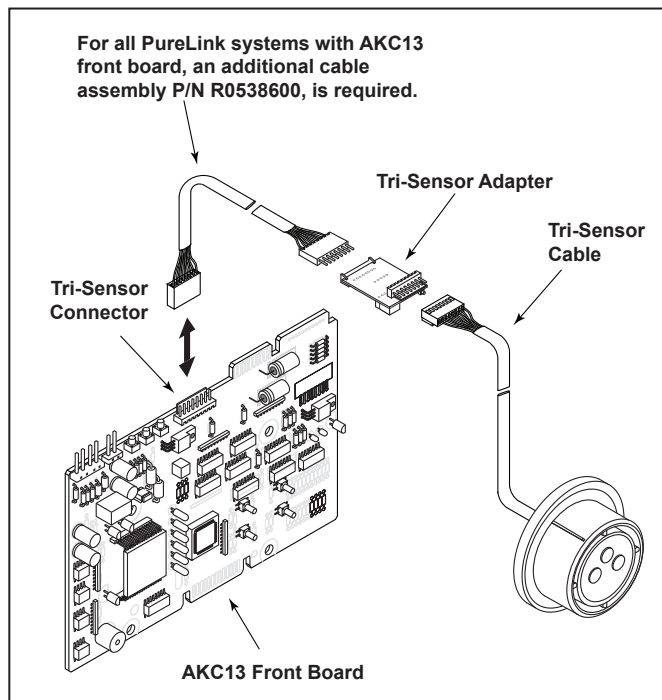

Figure 4. Installation of the Tri-Sensor Adapter on an AKC13 Front Board
- a. Connect the cable assembly P/N R0538600 to the tri-sensor adapter and the tri-sensor connector of the AKC13 front board. See Figure 4.